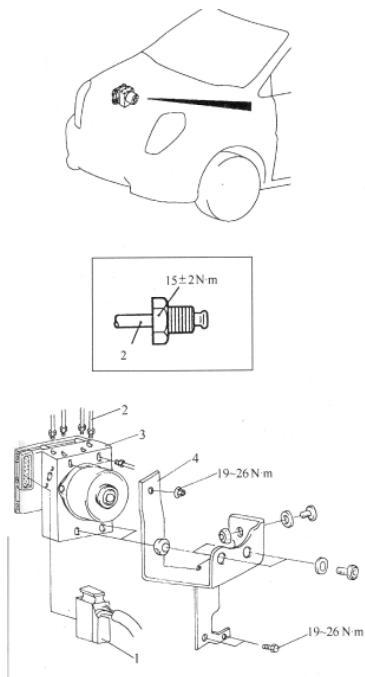

Fig. 16-61
1) Removal and installation sequence see Fig.16-61.